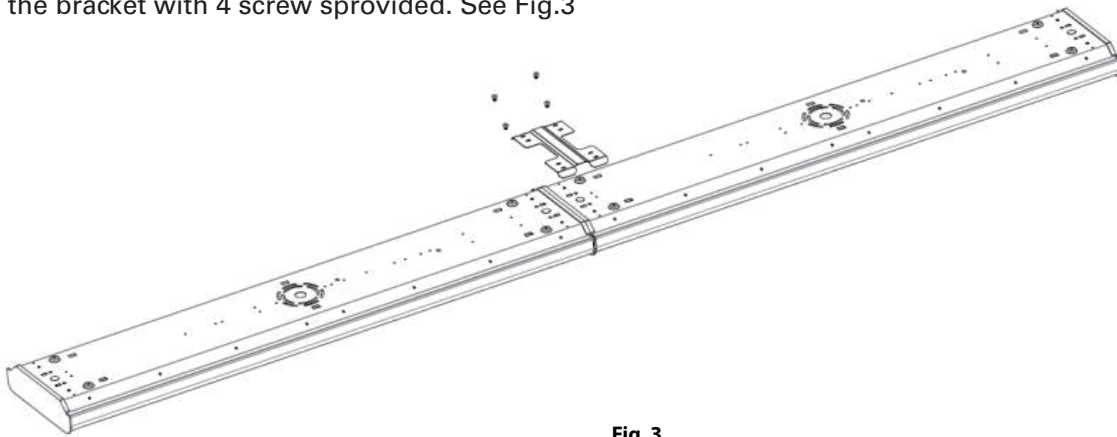

Fig. 3
INSTALLATION OPTIONS: Mounting Bracket (ordered separately) - Fig. 3
2. Secure the bracket with 4 screws provided. See Fig.3